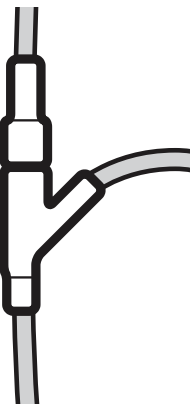

Figure 4-70 Y-Site Above the Pump
3. Attach the secondary medication to the y-site above the pump (Figure 4-69C, detail in Figure 4-70), ensuring the secondary administration set roller clamp is closed.